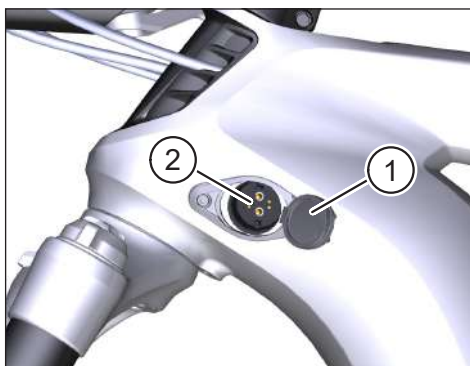

Fig. 49: Charging port in the bicycle frame
- Before cleaning the pedelec, check that the cover (No. 1 in Fig. 49) on the charging port in the bicycle frame is closed and engaged.
- After cleaning, check that the charging port (No. 2 in Fig. 49) in the bicycle frame is dry. If there are drops of water on the contacts in the charging port, it may not be possible to start up the pedelec.